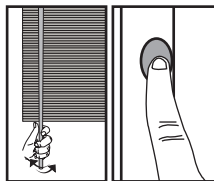

Figure 14.1;
Twist the E-Wand TWIST HANDLE ⑥ in the OPPOSITE direction [Fig. 14.1] to move the slats back to the FULL OPEN position. Press and hold the PROGRAMMING BUTTON ⑤ until the slats begin to move [Fig. 14.2].